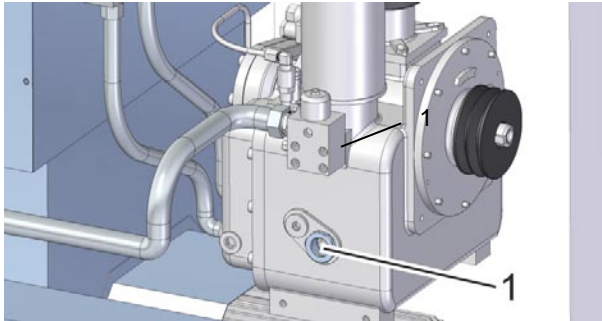

Fig. 25: Inspection glass
3. Check the inspection glass (Fig. 25/1) to make sure it is completely submerged in oil.